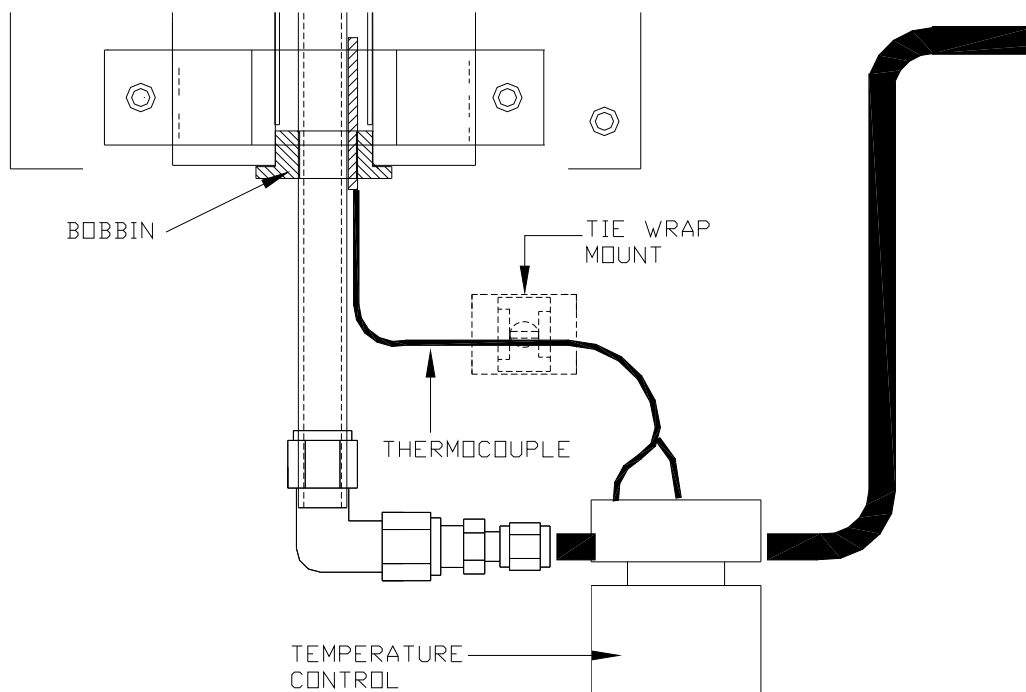

Figure 3-7. Tie-Wrap Hold-Down Location
15. Clean the chassis where the Tie-Wrap Hold-Down will be placed (alcohol is recommended), and place the Tie-Wrap Hold-Down as shown in the Figure 3-7.